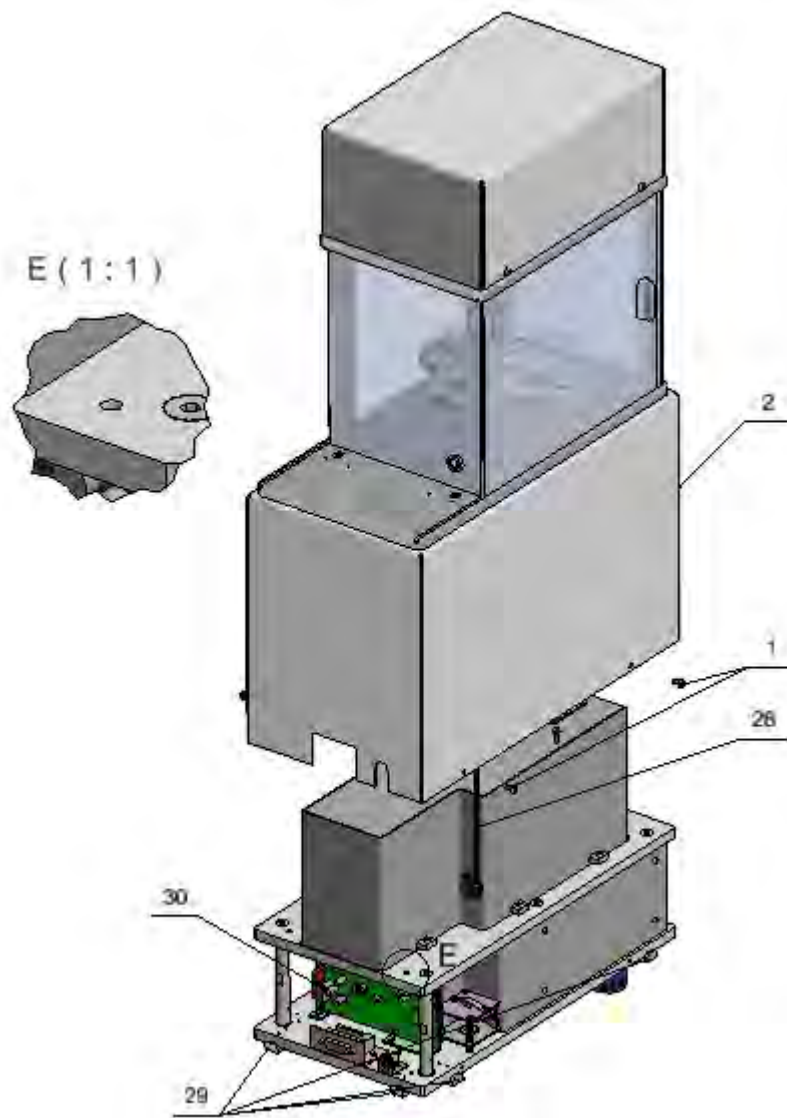

Fig. 7
24. Carefully apply the housing (2) and fix it using four M4 screws (1). Position the housing by means of angle bars (29). Prior screwing the housing it is necessary to pass cable (28) through an opening of a plate – detail E, and connect it to the main board (30). (Fig. 7)